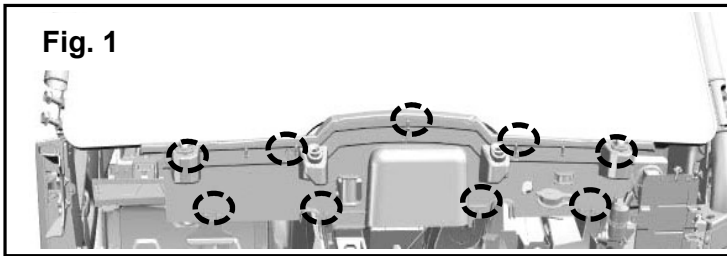

Fig. 1
1. Remove the hood and access the inner firewall. Remove the nine bolts that hold the firewall to the hood section. Disconnect the speed key wire harness (if equipped). Retain the stock bolts for reuse. (Fig. 1)